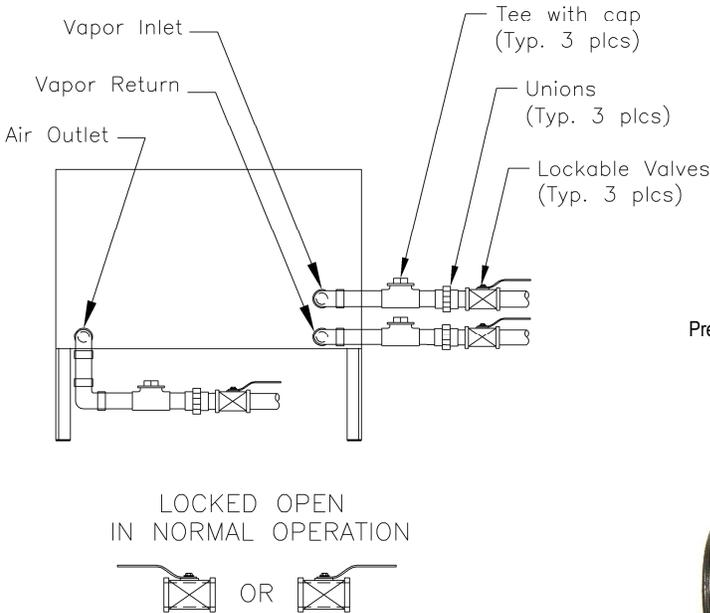

Figure 23: Processor Inlets & Outlets
- **See Figure 23.**
3. Close the ball valves between the *Processor* and the vents. **See Figure 23.**